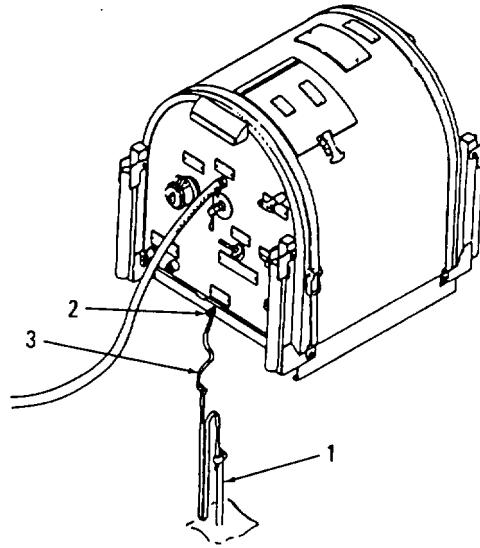

Figure 4-31. Ground Rod and Auxiliary Fuel Line Removal
4.37 PREPARATION FOR MOVEMENT. (Refer to Figure 4-31)
- a. Remove ground rod (1) from earth and remove one end of grounding cable (2) from pump ground connection (3).